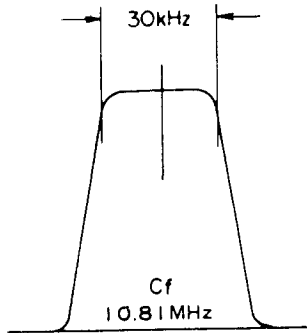

Figure 2
- d) Adjust  $T_{1003}$  and  $T_{1004}$  until the scope pattern illustrated in Fig. 2 is obtained.